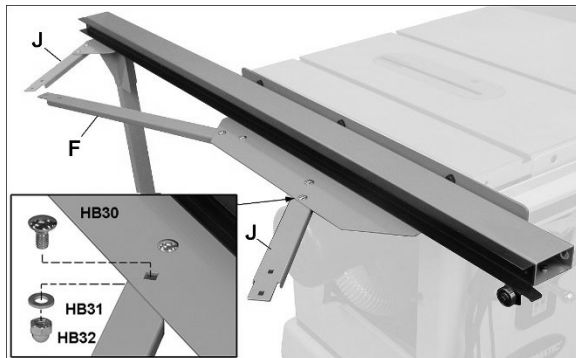

Figure 7-7
1. Install two short linkages (J) and one long linkage (F) with carriage bolts, washers and cap nuts. See Figure 7-7. *Finger tighten only.*
5. Fully tighten all 12 cap nuts/carriage bolts on the linkages (Figures 7-7 and 7-8).